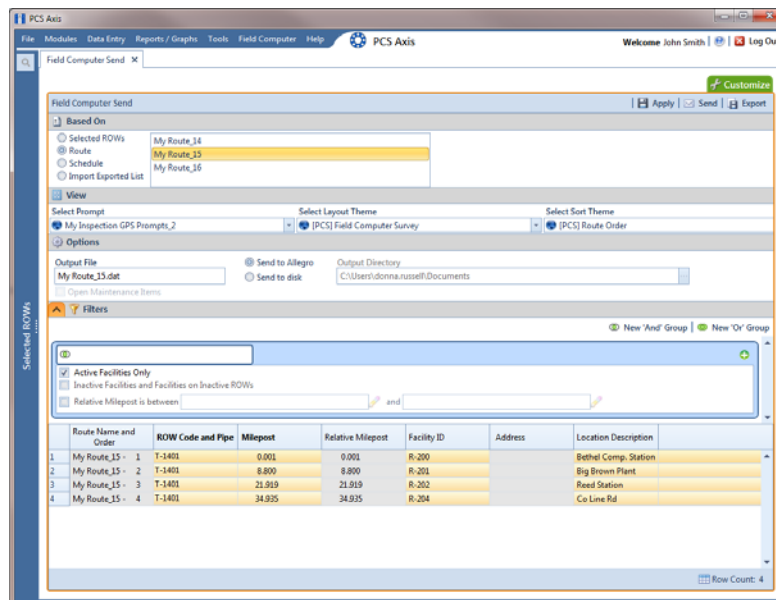

Figure 7-36. Filters
- b Select one or more options in *Filters*. For example, click **Active Facilities Only** to only include active facilities in the grid and in the route sent to the Allegro (Figure 7-36).